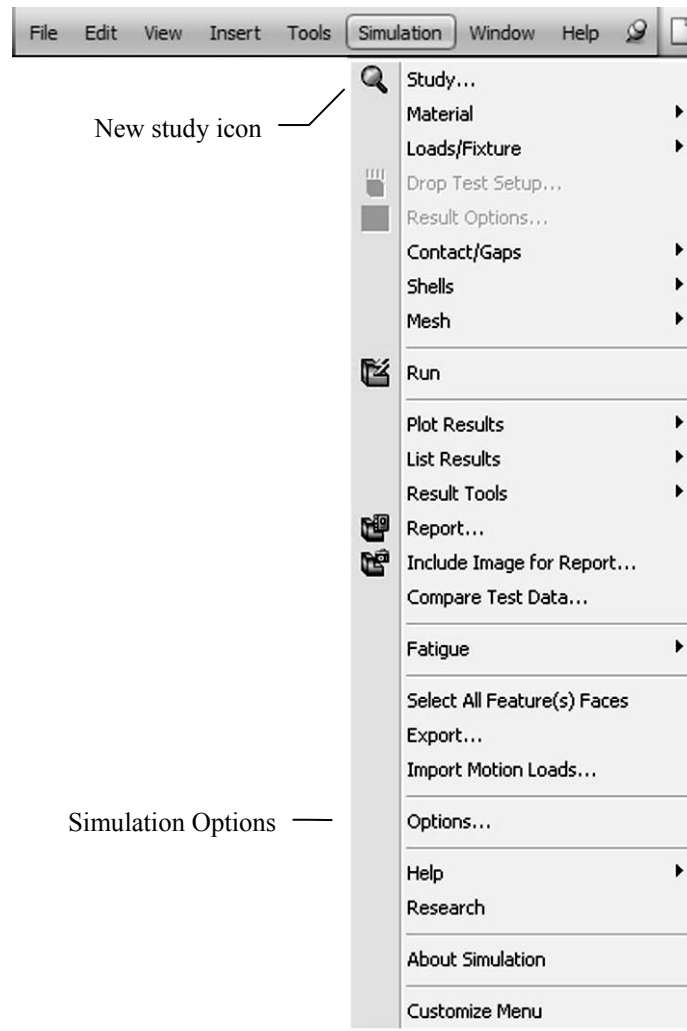
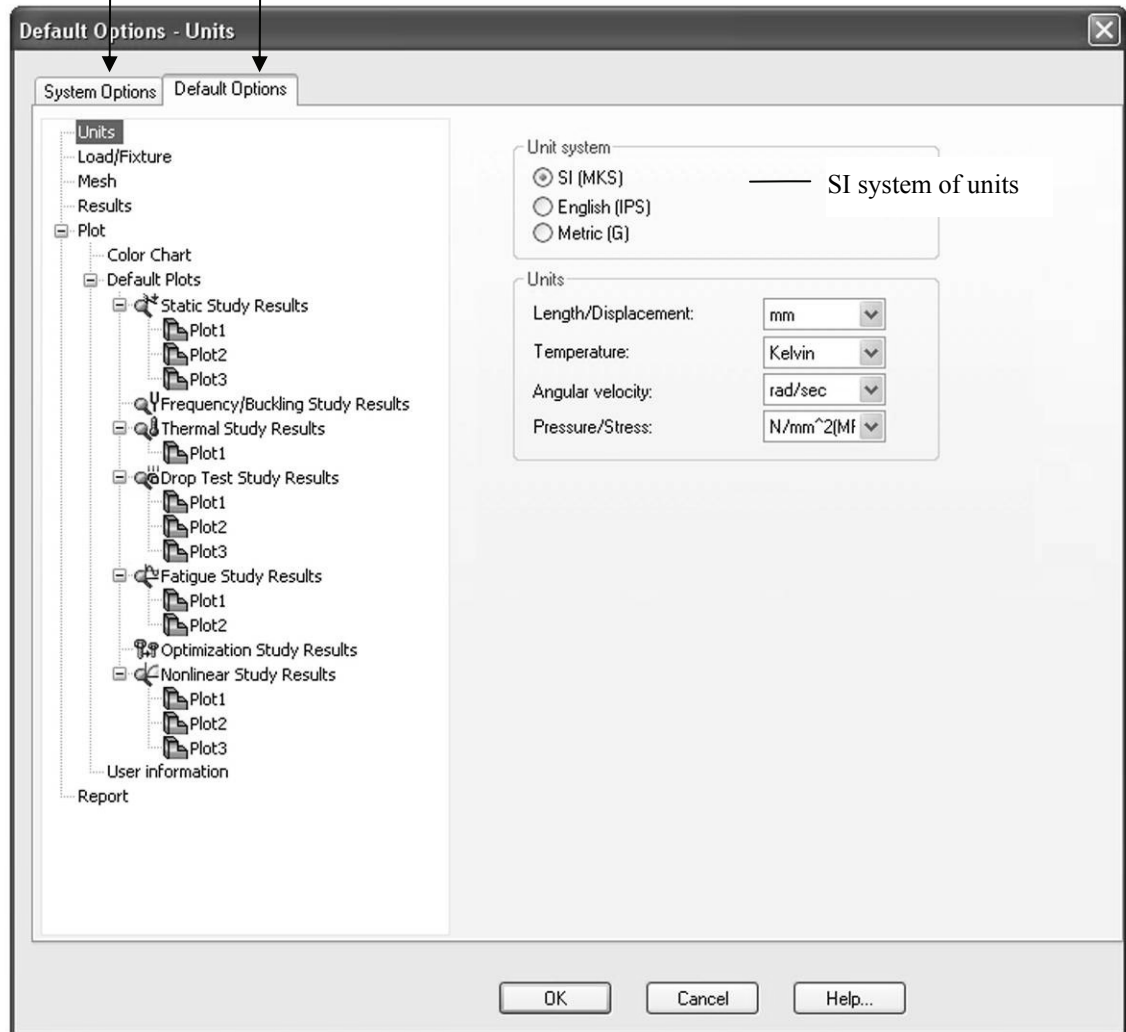
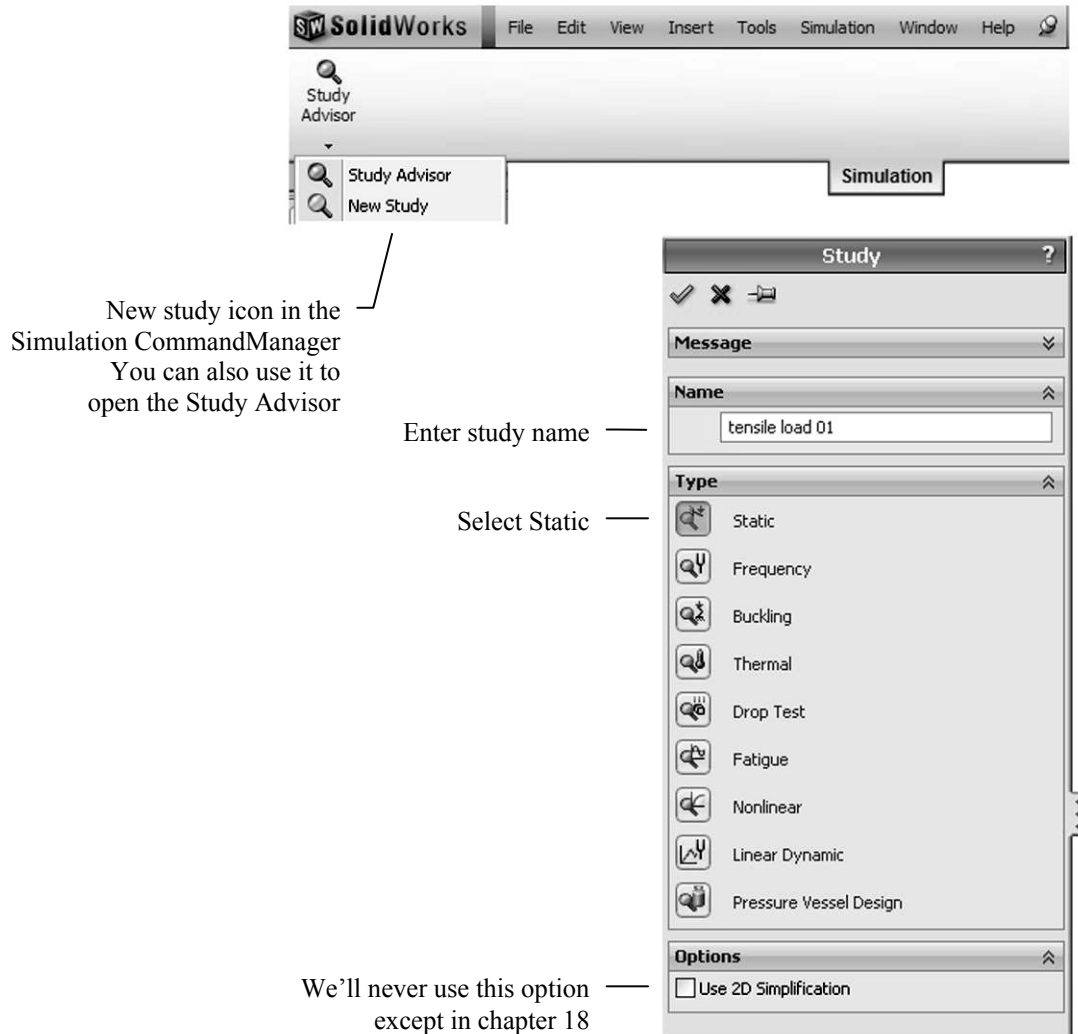
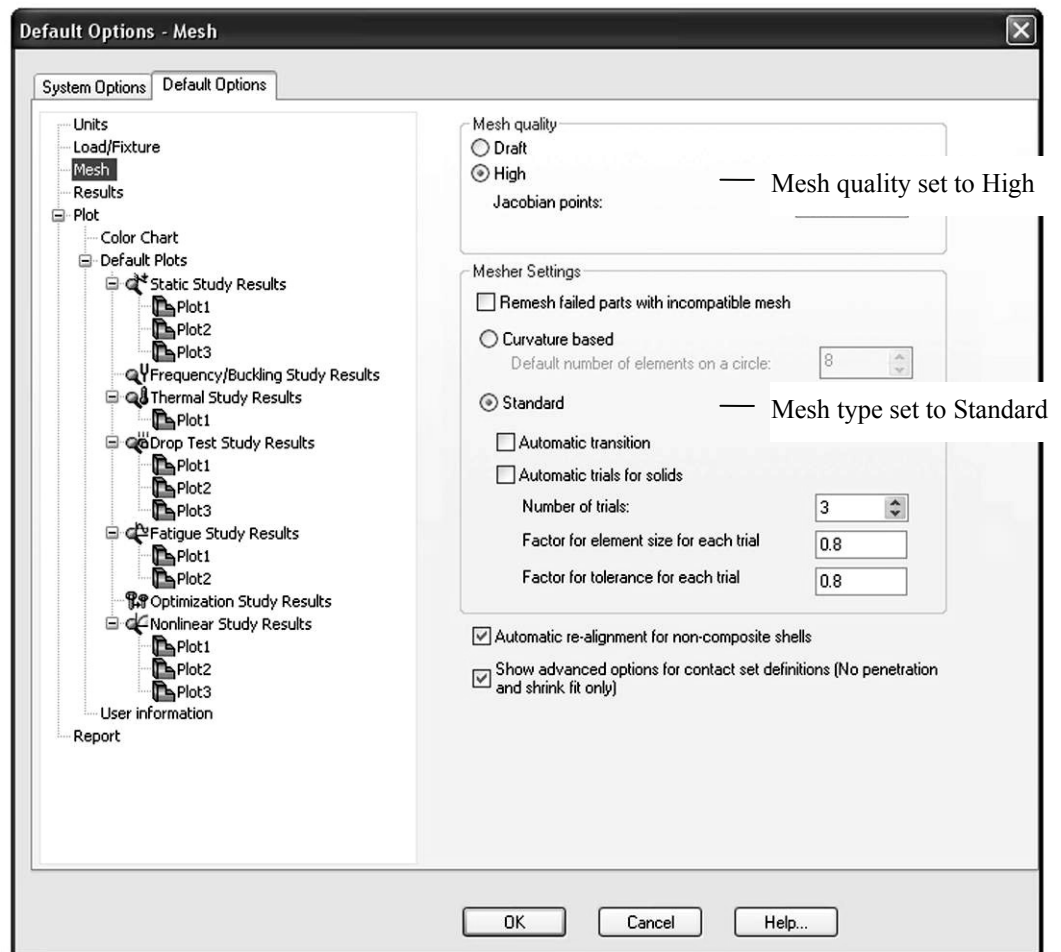

Figure 2-4: Simulation main menu
Figure 2-5: Simulation Options window
Figure 2-6: Creating a new study
Figure 2-13: Mesh settings in the Options window
Before we create the FEA model, let's review the **Simulation** main menu (Figure 2-4) along with its **Options** window (Figure 2-5).
Please spend time reviewing all of the options in both tabs shown in Figure 2-5 before proceeding with the exercise. In the **Units** options, make the choices shown in Figure 2-5. In this book we will mostly use the SI system of units, and occasionally switch to the IPS system.
Creation of an FEA model starts with the definition of a study. To define a new study, select **New Study** either from the **Simulation** menu (Figure 2-4) or the **Simulation** CommandManager (Figure 2-6). Name the study *tensile load 01*.
- ☐ From the Simulation main menu (Figure 2-4)
- ☐ From the Simulation tab in CommandManager (Figure 2-6)
Before meshing the model, we need to verify under the **Default Options** tab, in the **Mesh** properties, that **High** mesh quality is selected (Figure 2-13). The **Options** window can be opened from the SolidWorks **Simulation** menu as shown in Figure 2-4.